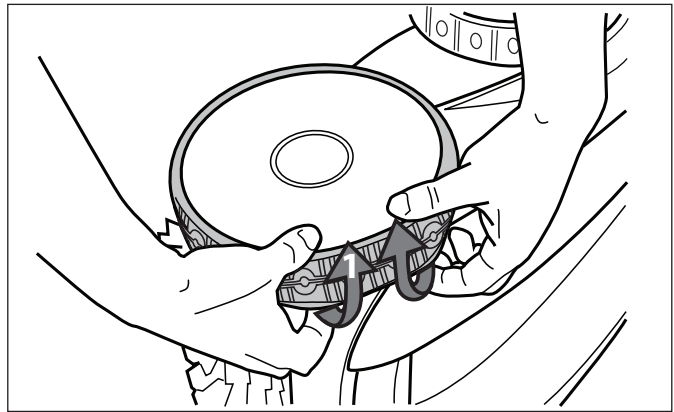

Figure 31. Pull the Old Tire Over the Wheel
- Pull on the inside of the old tire to remove the tire lip from the wheel (Figure 31).